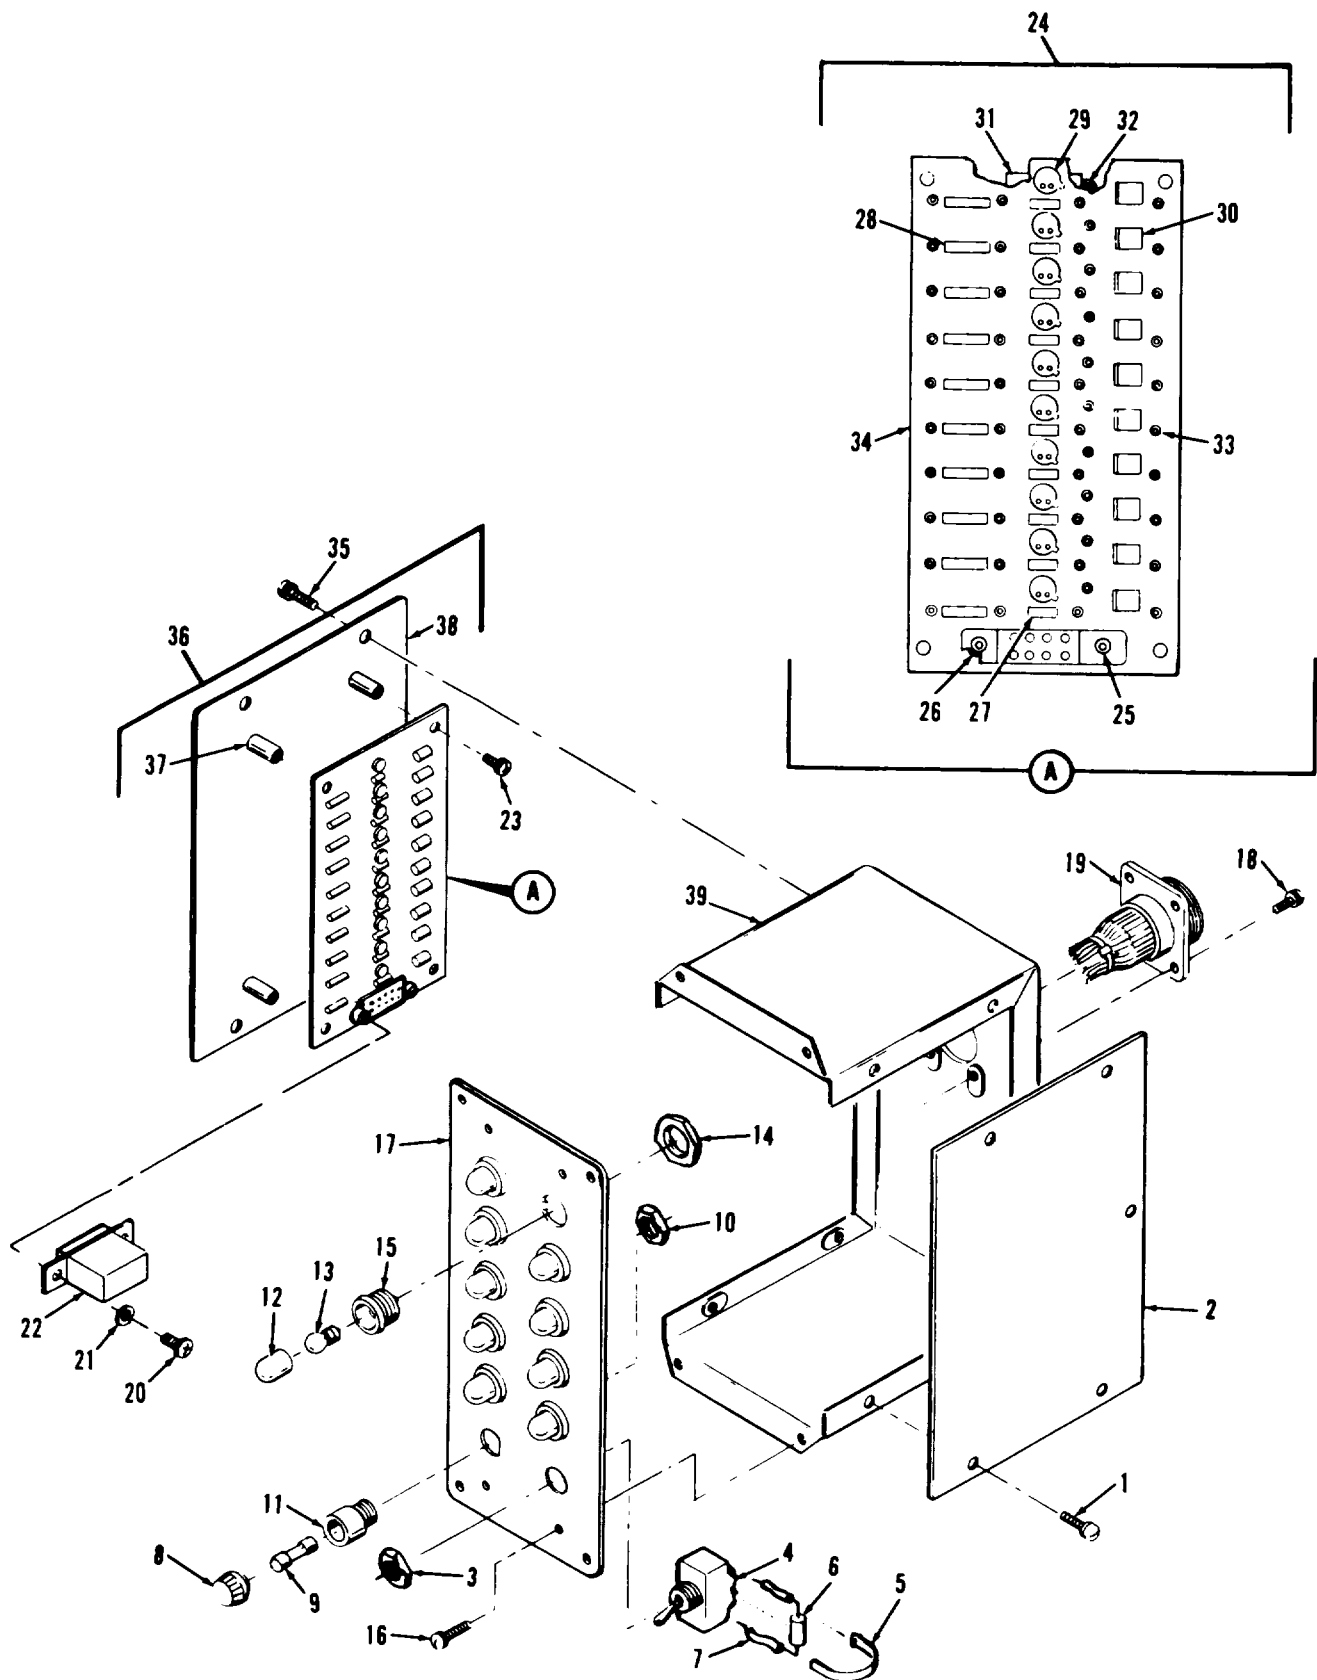

Figure 6-11. Fault locating indicator box, exploded view
Refer to figure 6-11 and disassemble fault locating indicator box in the order of index numbers assigned. Pay particular attention to the following:
Refer to figure 6-11 and reassemble fault locating indicator box in the reverse order of index numbers assigned. Pay particular attention to the following:
Legend to figure 6-11:
c. Install relay (22, figure 6-11) in relay socket (25) squarely so as not to damage pins.
e. Install cover (2) by installing screws (1).